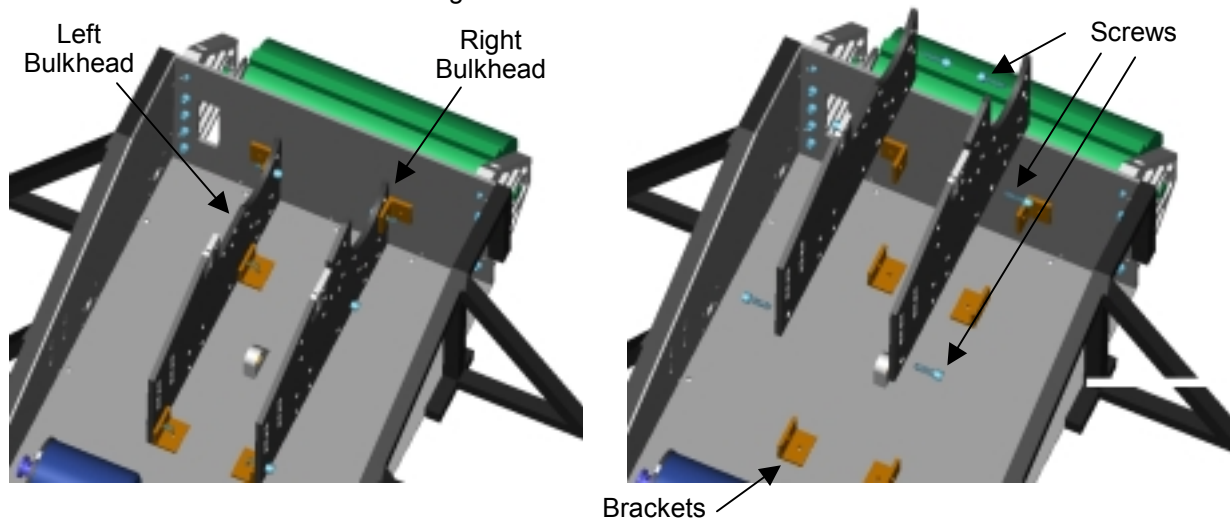

Figure 7.1 – Bulkheads
The bulkheads are attached to the body with brackets that are welded to the body. The bulkheads are thru bolted to these brackets as seen in Figure 7.1.
1. Align bulkhead with screw holes in brackets as shown ion Figure 7.1.